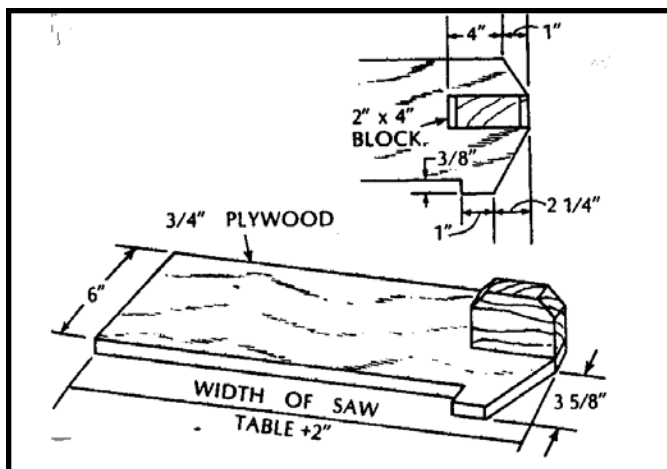
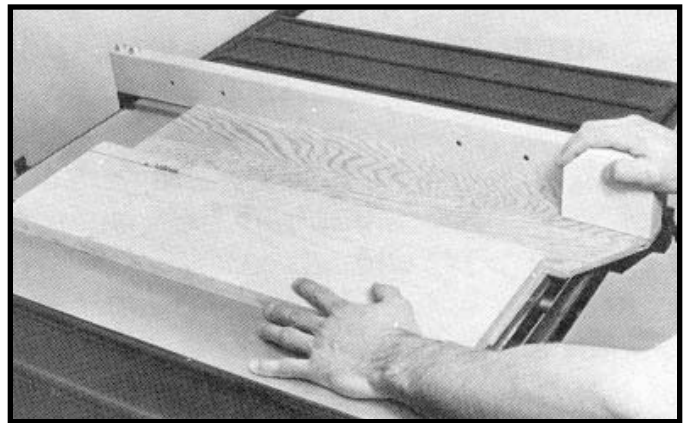

Fig. 63
Fig. 64
3. Ripping narrow pieces can be dangerous if not done carefully. Narrow pieces usually cannot be cut with the guard in position. If the workpiece is short enough, use a pushboard. When ripping material under 2 inches in width, a flat pushboard is a valuable accessory since ordinary type sticks may interfere with the blade guard. When using a pushboard, the width of the pushboard must be added to the width of the rip fence position setting. A flat pushboard can be constructed as shown in Fig. 63 and should be used as shown in Fig. 64.